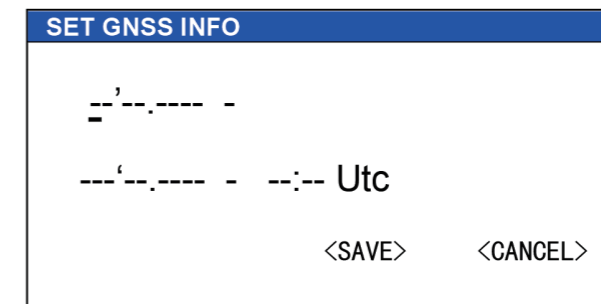

Figure 6.5.3
- a: In the <DSC Setup> menu, select <Position Setup> and press [ENT] to open the GNSS setup dialog, as shown in Figure 6.5.3.